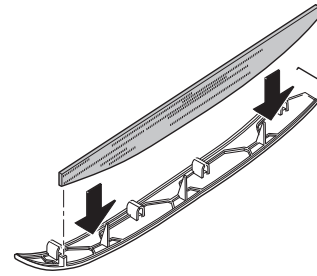

Fig. 39
- Insert new filters in the panels (Fig. 39).